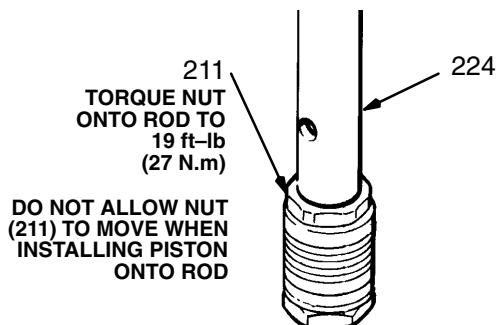

Fig 37-2
7. Use a wrench to **CAREFULLY** tighten the nut (211) onto the piston rod to 19 ft-lbs (25 N.m). Refer to Fig 37-2.